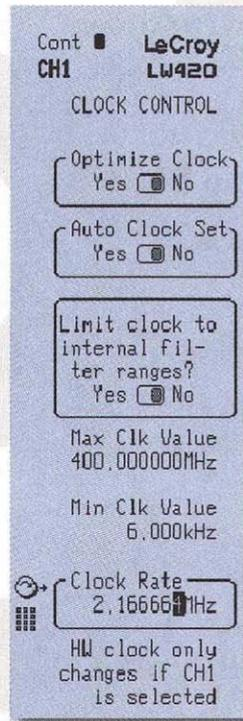

Figure 1
- 3) Set the following conditions on the Clock control menu—see Figure 1;
Figure 1. Direct readout of mean, low/high range, and standard deviation of width, period, and duty cycle measured over 2900 sweeps as shown in a persistence display.
parameters over multiple acquisitions, providing direct readout of the mean, lowest and highest value, and standard deviation (sigma) of up to 5 measurement parameters as shown in Figure 1.
The standard deviation provides direct readout of the rms jitter for that parameter. The difference between the lowest and highest value is the peak-to-peak jitter. For example, in Figure 1, the width has an rms jitter of 38 ns and a peak to peak jitter of 130 ns.